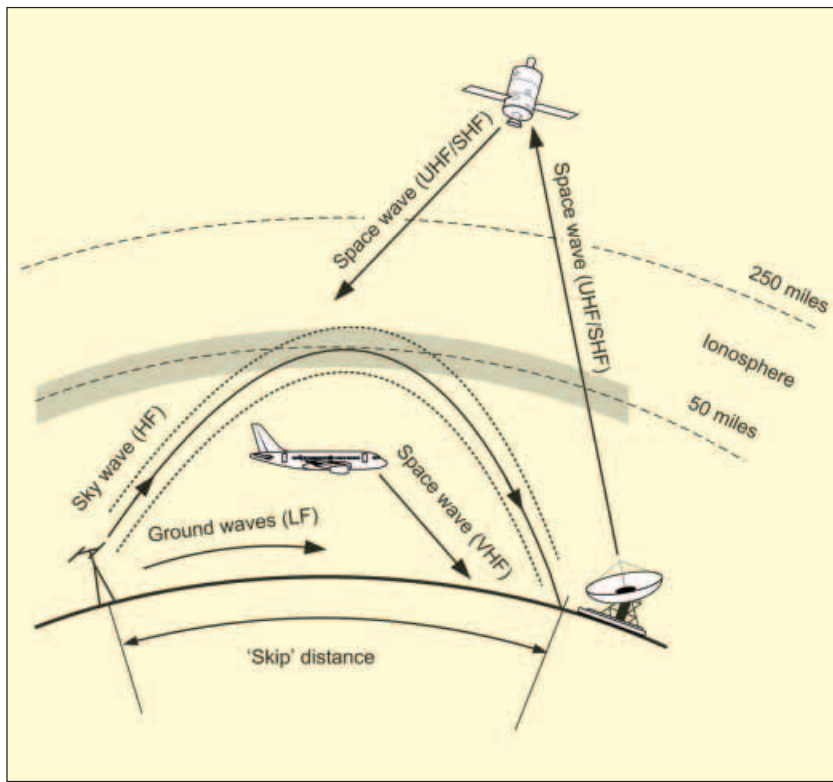

Fig.11.2. Propagation of radio signals at different frequencies
(below 30kHz) is only suitable for narrow-band communication. At this frequency, signals propagate as ground waves (LF) (following the curvature of the earth – see Fig.11.2) over very long distances.
At the other extreme, the highest frequency range that is of practical importance extends above 30GHz. At these microwave frequencies, considerable bandwidths are available (sufficient to transmit many television channels using point-to-point links or to permit very high definition radar systems) and signals tend to propagate strictly along line-of-sight paths (space waves – see Fig.11.2).
At other frequencies signals may propagate by various means, including reflection (or, more correctly, *refraction*) from ionised layers in the ionosphere (sky waves – see Fig.11.2). At frequencies between 3MHz and 30MHz ionospheric propagation regularly permits intercontinental broadcasting and communications.